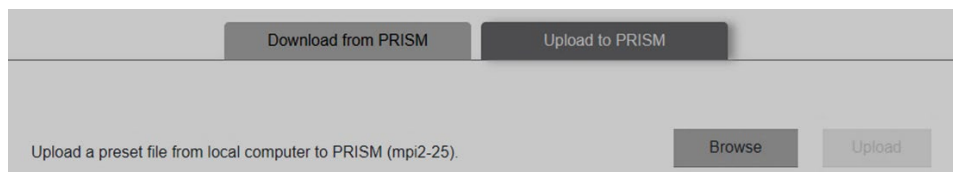

Figure 79: PRISM web presets page with Upload to PRISM selected
3. Select **Upload to PRISM** and then select **Browse**. (See Figure 79.)